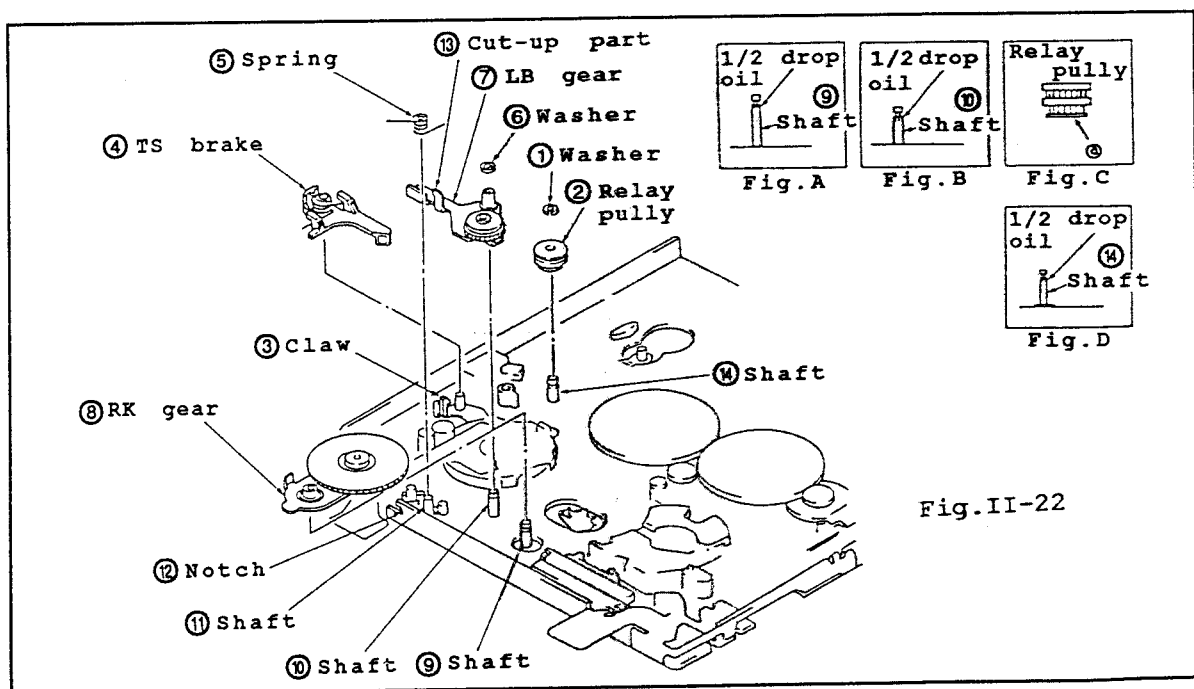

Fig.II-22
• Disassembling (Fig.II-22)
- (1) Set unloading state.
- (2) In the same procedures in "3-3", dismount the capstan motor.
- (3) In the same procedures in "3-13", detach the switch lever.
- (4) In the same procedures in "3-14", detach the timing belt (L), the RC gear, the loading lever, the timing belt (S) and the joint gear.
- (5) To take off the relay pully ②, remove the washer ①.
- (6) To detach the TS brake ④, unhook the claw ③.
- (7) Remove the spring ⑤.
- (8) To detach the LB gear ⑦, remove the washer ⑥.
- (9) Detach the RK gear ⑧.
*Note: When taking off the relay pully ②, do not touch the flange part ①.
• Reassembling (Fig.II-22)
- (1) Apply the 1/2 drop of oil to the shaft ⑨. (Fig.A)
- (2) Install the RK gear ⑧ to the shaft ⑨ longitudinally.
- (3) Apply the 1/2 drop of oil to the shaft ⑩. (Fig.B)
- (4) Install the LB gear ⑦ to the shaft ⑩. Then secure it with the washer ⑥.
- (5) Put the spring into the shaft ⑪. Then, hook it to the notch ⑫, and cut-up part ⑬.
- (6) Assemble the TS brake ④, and hook the claw ③.
- (7) Apply the 1/2 drop of oil to the shaft ⑭. (Fig.D)
- (8) Attach the relay pully ② to the shaft ⑭, and secure it with the washer ①.
- (9) In the same procedures in "3-14", attach the timing belt (L), the RC gear, the loading lever, the timing belt (S) and the joint gear.
- (10) In the same procedures in "3-13" and "3-3", install the switch lever and the capstan motor.